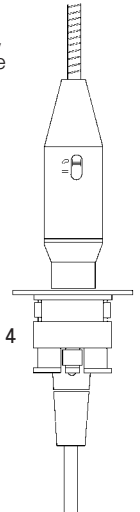

Fig. 4
**Plug-in Mount:** Drill a  $1\frac{3}{8}$ " hole at the desired point in the mounting surface. Run the XLRF connector of the microphone cable up through the hole. Remove the mounting stud from the AT8416 and insert the XLRF connector up through the chloroprene rings (Fig. 3). Secure the shock mount with the three screws (as in Fig. 2). Attach the XLRF connector to the microphone and work the connector body back down into the shock mount (Fig. 4).